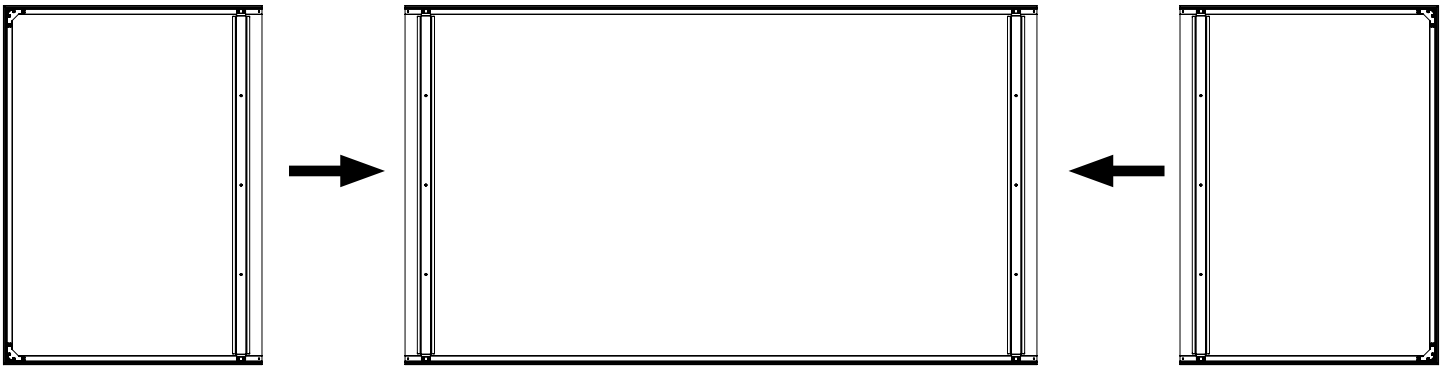

Figure 5
2. Slide all three panels together, aligning the both the top and bottom frames (Figure 5).
3. Find (1) seam brace and remove the release liner from both strips of adhesive tape.